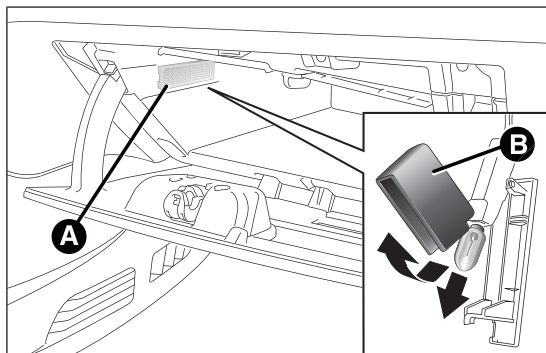

fig. 150
- open the glove compartment and extract the roof light A fig. 150;